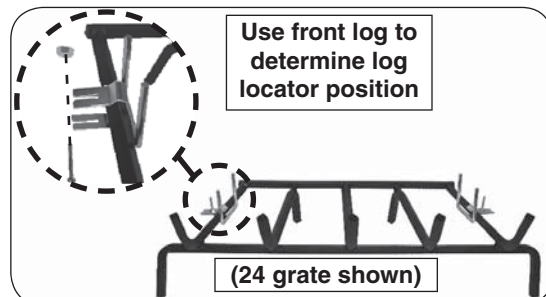

Fig. 13-2 Attach log locators to grate
1. Locate the grate (outside of the fireplace) and attach the log locators to the 2 outer bars of the grate using the provided screws and nuts (see Fig. 13-2).